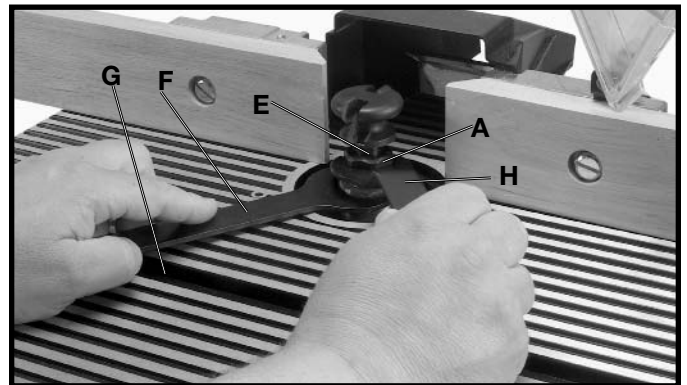

Fig. 29
5. Clean and insert shank of router bit (E) Fig. 29, into collet (A) or adapter sleeve until it bottoms, then back out router bit approximately 1/16 inch.
6. Place wrench (F) Fig. 29, on flats of spindle assembly to keep spindle from turning during router bit installation.
NOTE: Spindle wrench (F) Fig. 29, features a round protrusion on one side that makes installation easier. With the open end of wrench (F) Fig. 29, on the flats of the spindle, rotate the wrench until the protrusion slides into the miter gage slot (G) as shown. Place the other wrench (H) on flats of the collet and turn wrench clockwise to tighten router bit in spindle assembly.